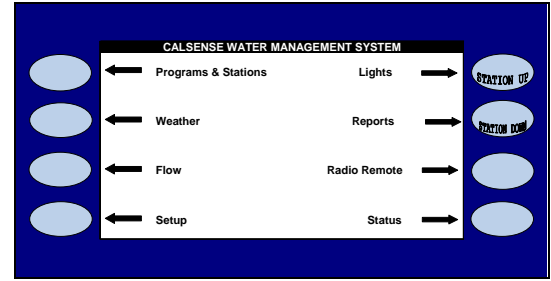

Figure 7
11.  Press the **MAIN MENU** key to return to the MAIN MENU screen (Figure 7).
12.  Press the **PROGRAMS & STATIONS** Menu key (Figure 7).